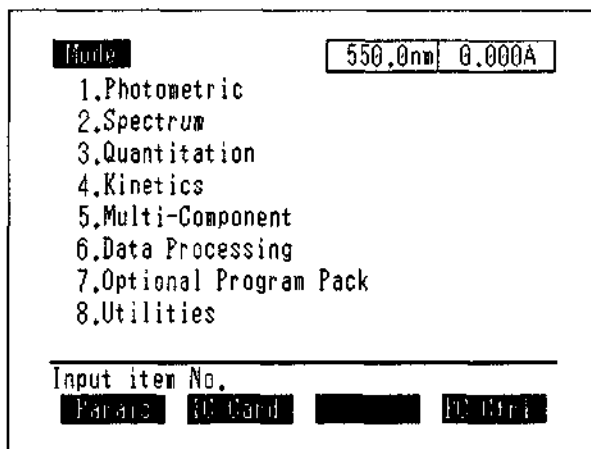

Fig 5.6.2 Top Menu Screen
- (2) Select "7. Optional Program Pack" on the Top Menu. (shown in Fig 5.6.2)